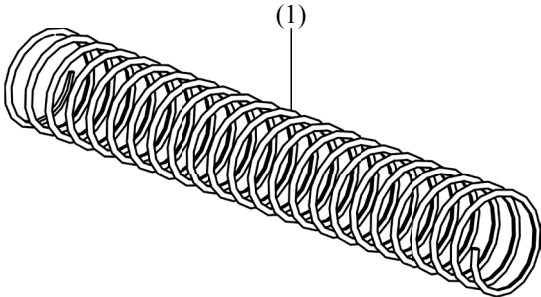

Figure 2.9
1. Weak or broken action spring (Fig. 2.9, 1)	Replace spring